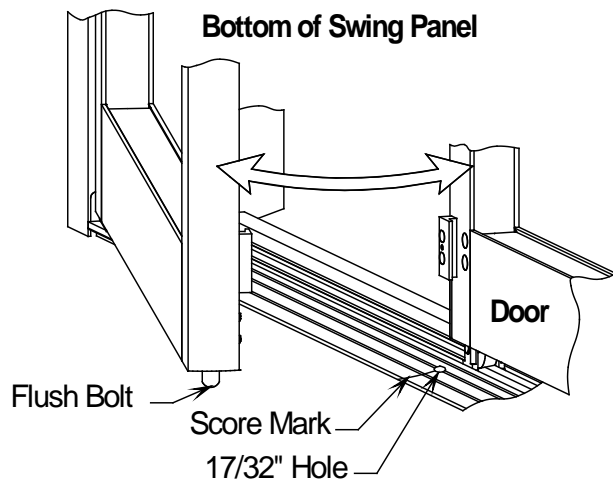

Figure 16
16. Locate the point where the score marks intersect the first centering groove on the bottom of the header (closest to the outside of the header) and the only groove on the floor track. Drill a 17/32" hole. (See Figure 16)